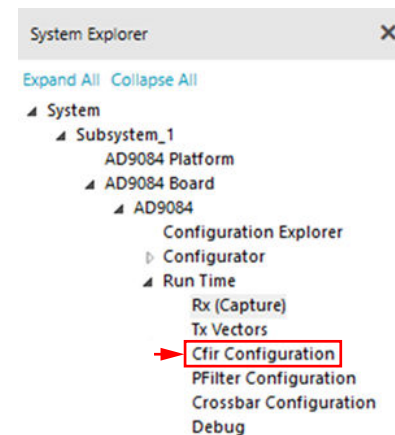

Figure 36. Cfir Configuration in System Explorer
**Cfir Configuration** is available for Rx only in the **System Explorer** (see Figure 36).